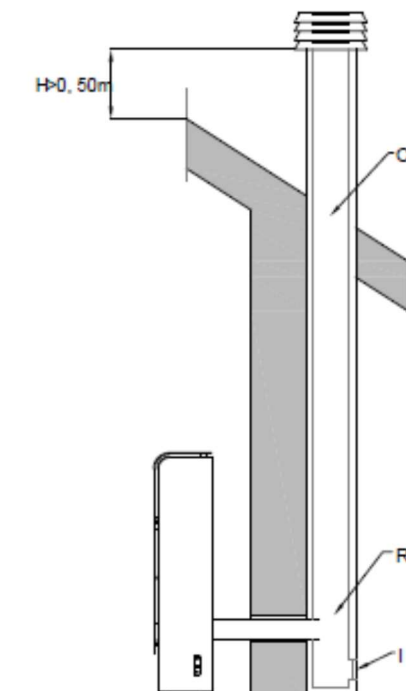

Figure 2.5: smoke discharge with traditional chimney
Combustion smoke can be also discharged by already existing traditional chimney (Figure 2.5), provided it complies with applicable standards. Main characteristics of a good chimney (C) are listed below: